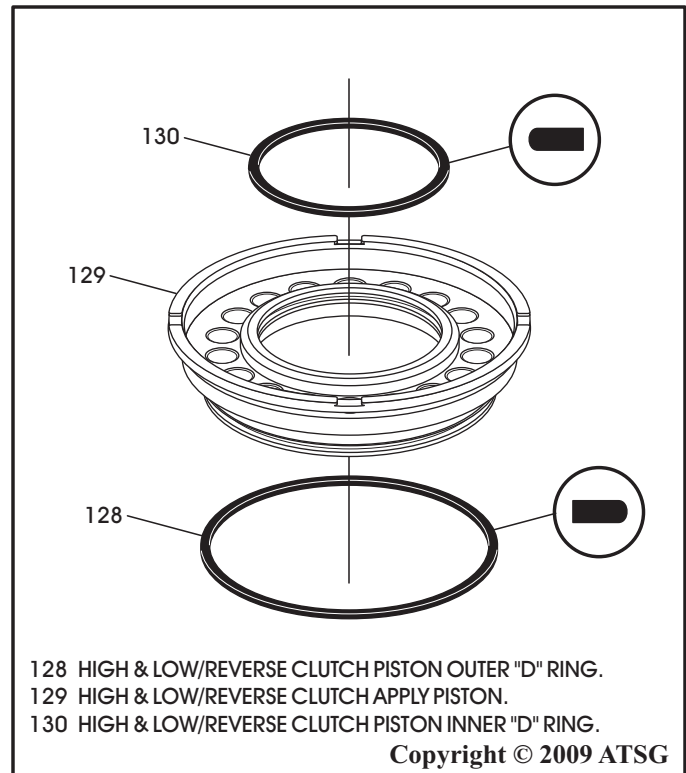

Figure 132
5. Install new "D" ring seals into the grooves of high and low/reverse clutch apply piston, as shown in Figure 132, and lube with a small amount of Trans-Jel®.